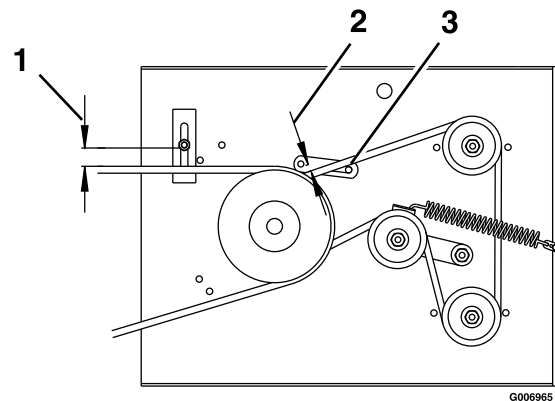
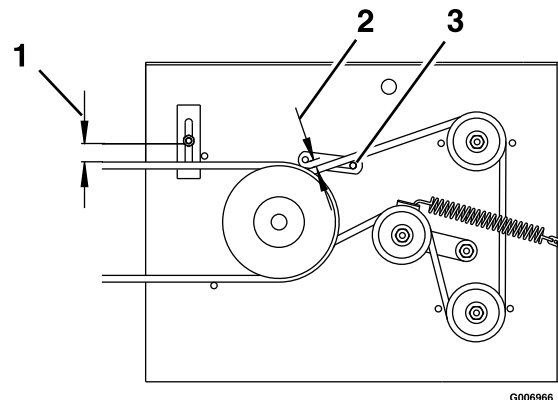

Figure 17
Figure 18
3. Check belt guide under the engine deck for proper adjustment (see Figure 17 and Figure 18). Adjust as necessary.